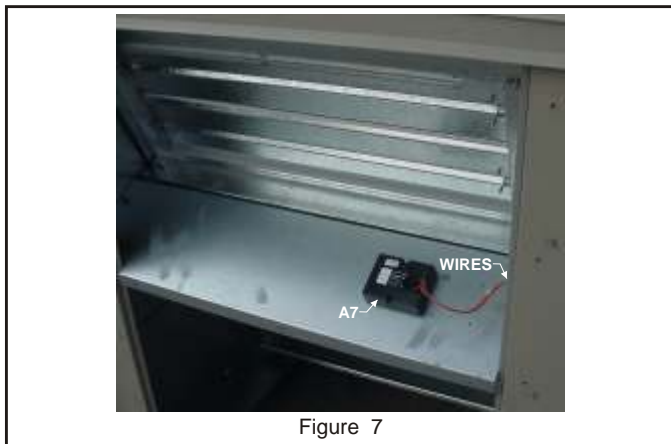

Figure 7
5. The economizer may use an A7 enthalpy sensor located on the division panel between the economizer outdoor air and return air dampers. If present, the sensor must be moved to the intake air section of the ERS. Disconnect sensor A7 wires from logic module, remove screws securing the sensor, and retain sensor assembly and screws. **See Figure 7.**